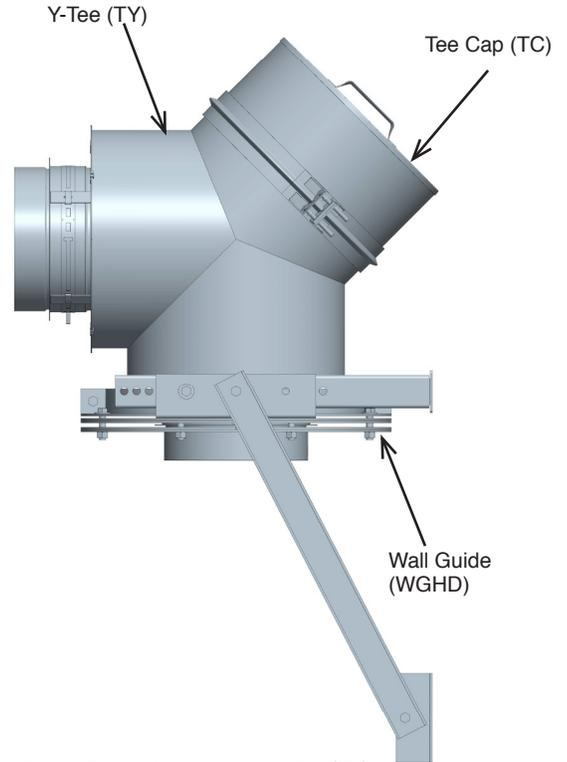

Figure 33 - Installation of a Y-Tee (TY)
1. The Tee Y (TY) is very useful where the grease duct must be accessed for clean-out and inspection purposes. See **Figure 33**.